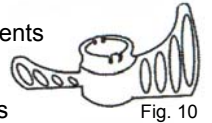

Fig. 10
- Fit the whipping attachment over the spindle and press firmly into place. (Fig. 10)